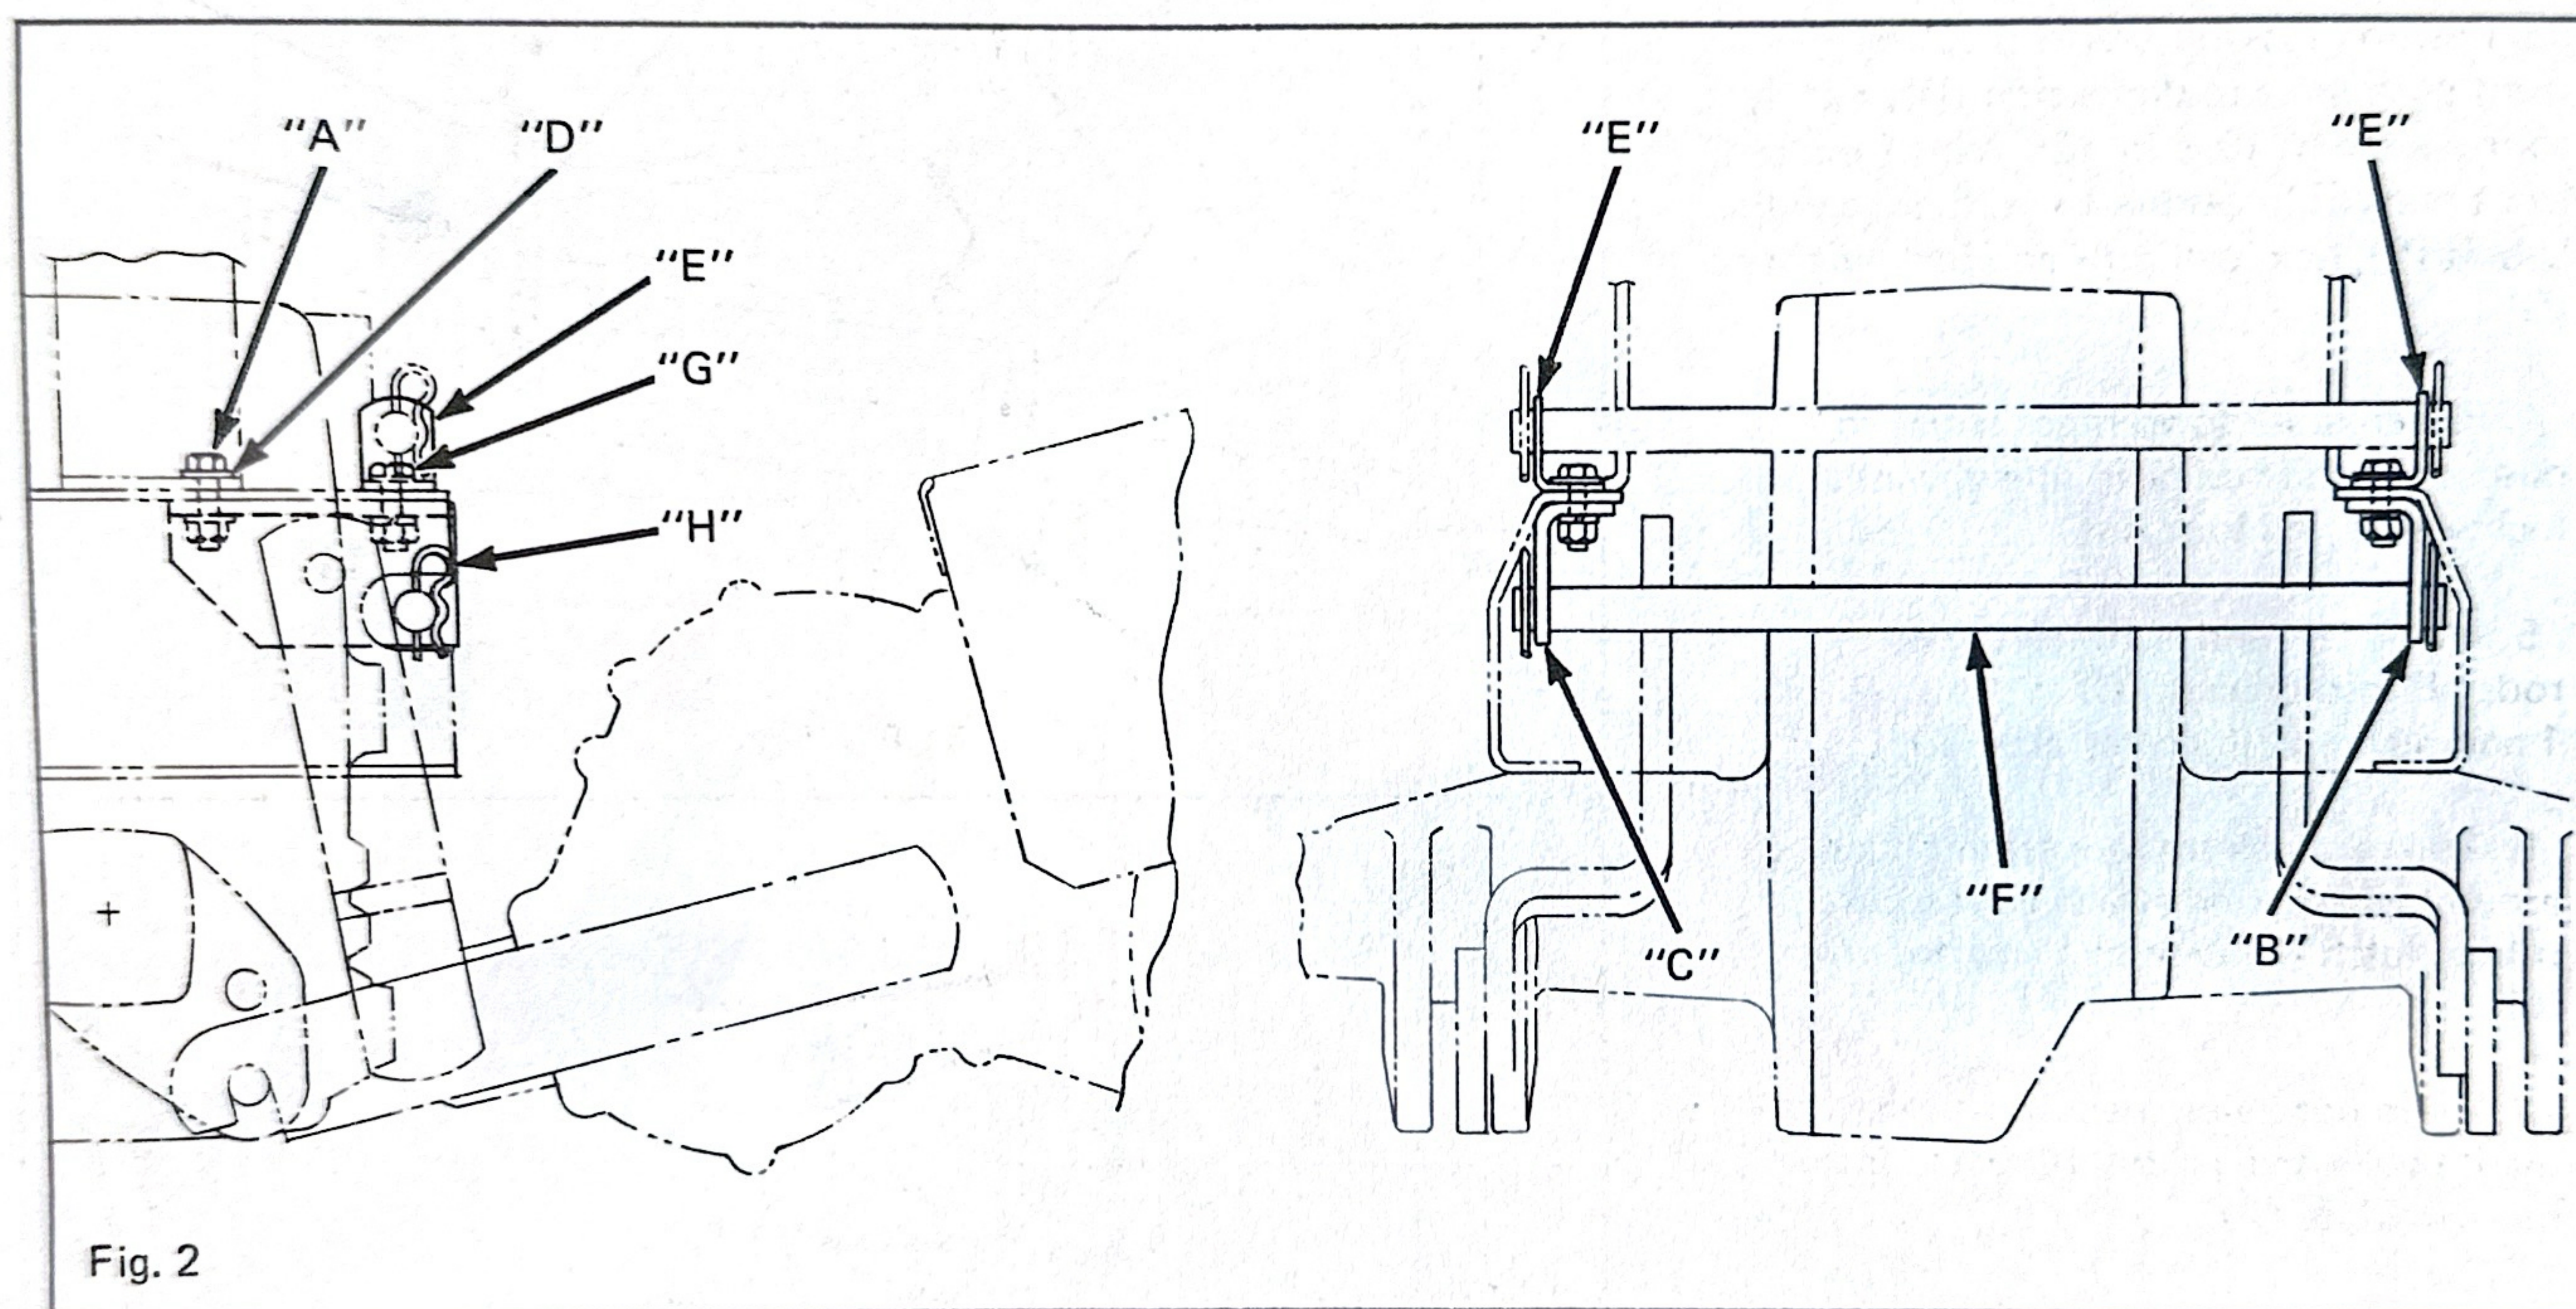

Fig. 2
1. Remove rear hex head screws and nuts at point (A), Fig. 2 below, on both sides of frame.
2. Install R.H. lock-up bracket (B) and L.H. bracket (C) and secure with two